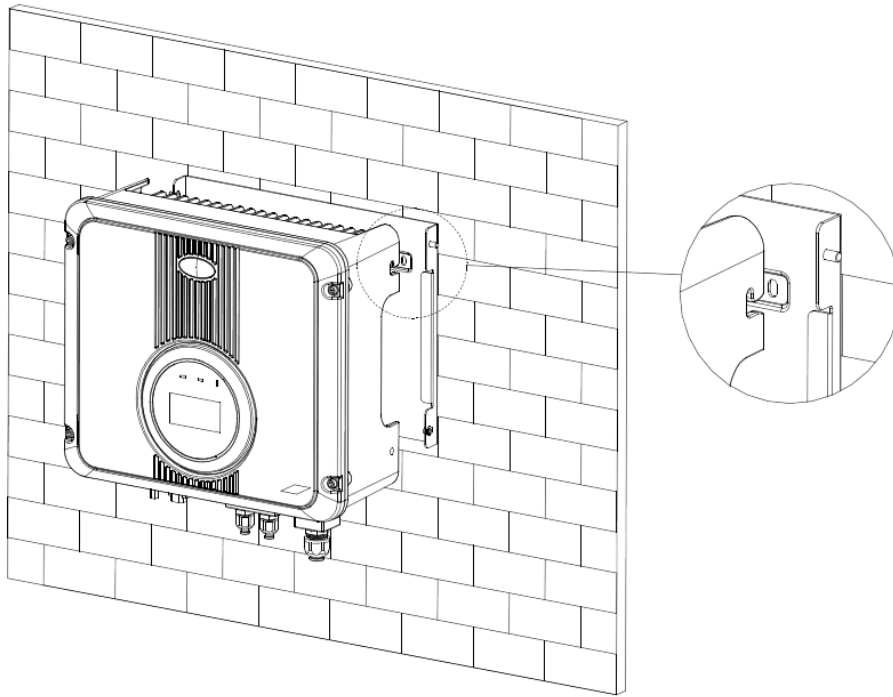

Figure 14
This product has a professional IP68 DC waterproof connector. You have to wire DC by yourself. Please see figure 14 and 15 for DC connector disassembling guide.
- Please ensure that the spring is closed. (see fig14.)